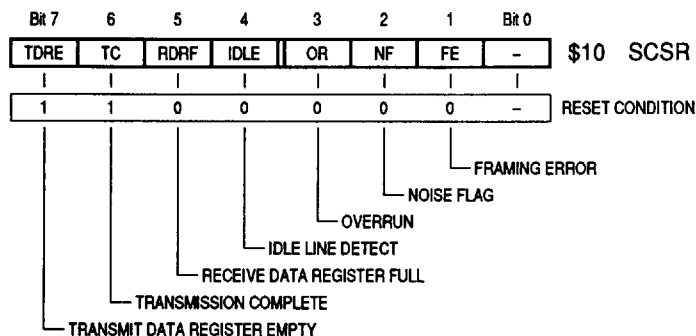

Figure 3-21. Serial Communications Status Register
3.6.3.4 SERIAL COMMUNICATIONS STATUS REGISTER (SCSR). The SCI status register (SCSR) in Figure 3-21 contains two transmitter status flags and five receiver related status flags. The TDRE and RDRF bits are always used. The TC and IDLE bits are not commonly used.